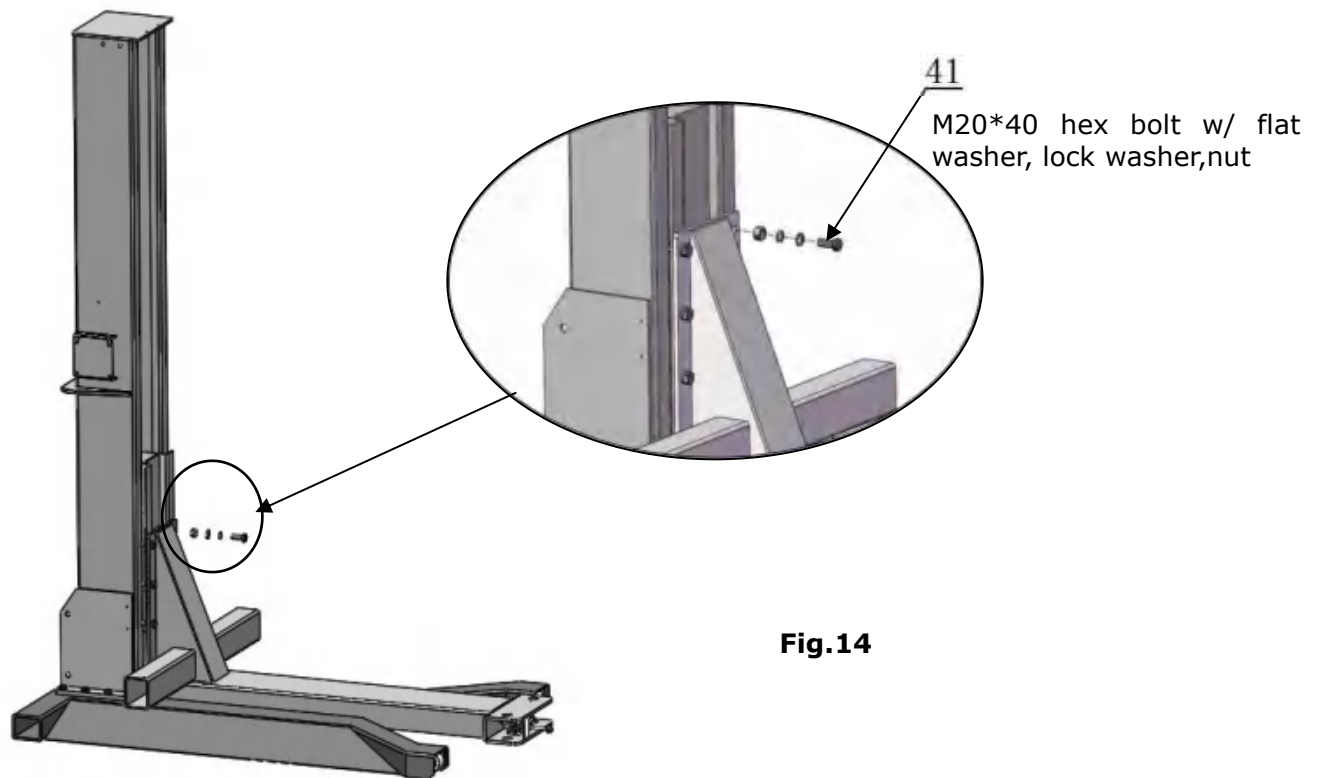

Fig.14
4. Fix lifting platform to carriage. (See Fig.14)